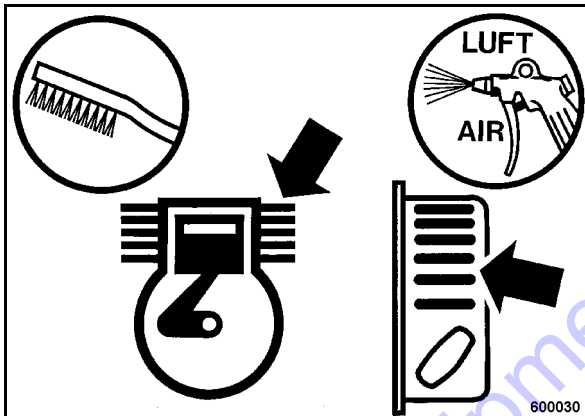

Fig. 51
- Loosen dried on dirt with a suitable brush (Fig. 51) from all cooling fins and cooling air intake openings and blow it off with compressed air.